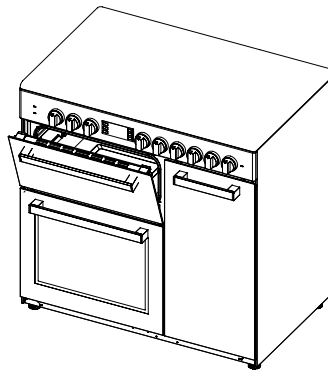

Figure 32
3. Place the safety panel under control panel by opening the oven front cover glass. (figure 32)